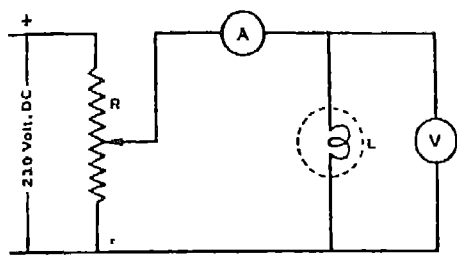

Fig 10.2 Resistance Measurement (Incandescent Lamp)
- (v) Repeat the same procedure for the incandescent lamp, Fig. 10.2